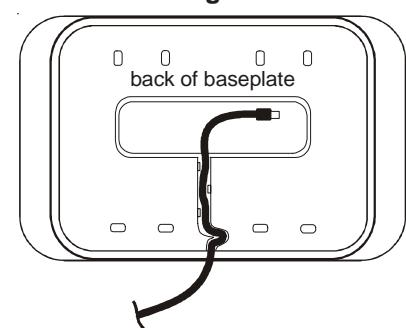

Fig. 2
- Thread the wall mount power supply's output connector from behind and through the opening in the left side of the baseplate. See Fig. 2.